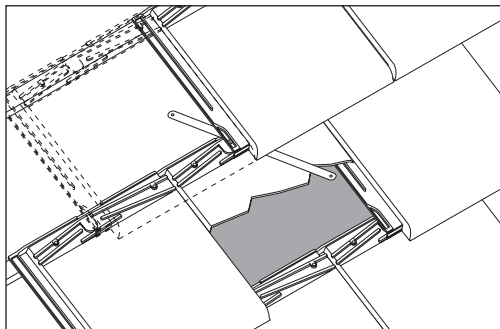

Fig 27 – Removal of further fixings
- If resistance is felt, cut second nail fixing in remaining head portion in a similar manner (Fig 27).